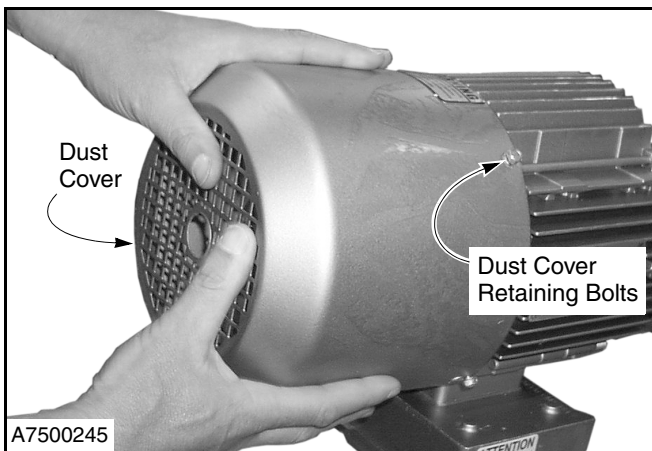

Figure 34
2. Loosen hex-head bolts retaining the dust cover to the motor assembly. Remove the cover. (See Figure 34.)